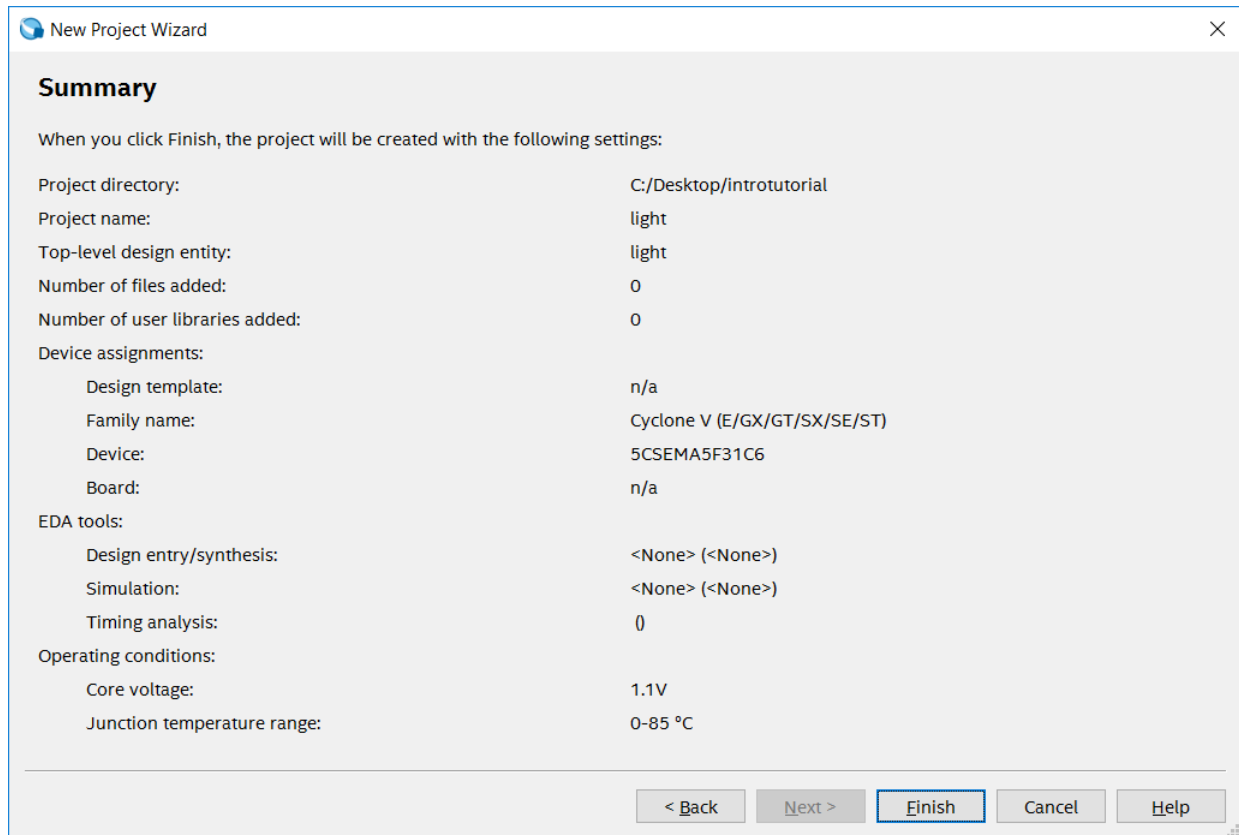
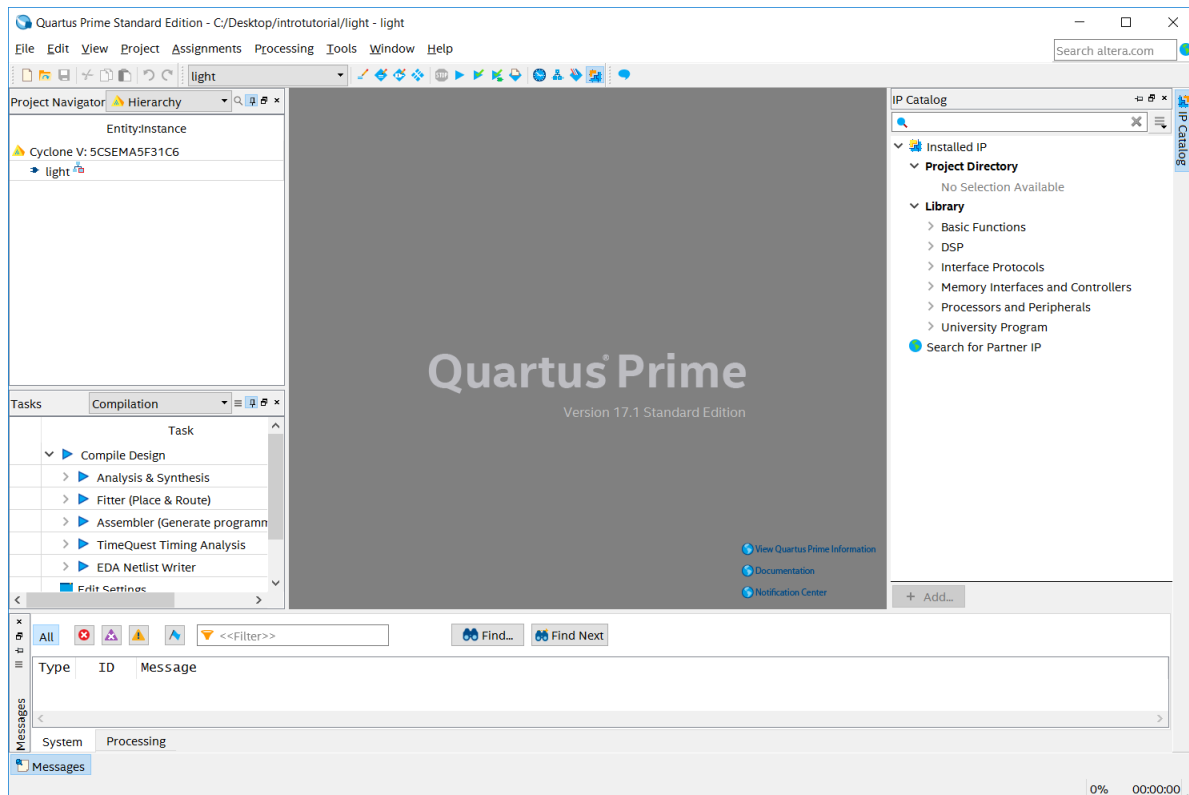

Figure 10. Summary of project settings.
Figure 11. The Quartus Prime display for a created project.
7. A summary of the chosen settings appears in the screen shown in Figure 10. Press **Finish**, which returns to the main Quartus Prime window, but with *light* specified as the new project, in the display title bar, as indicated in Figure 11.